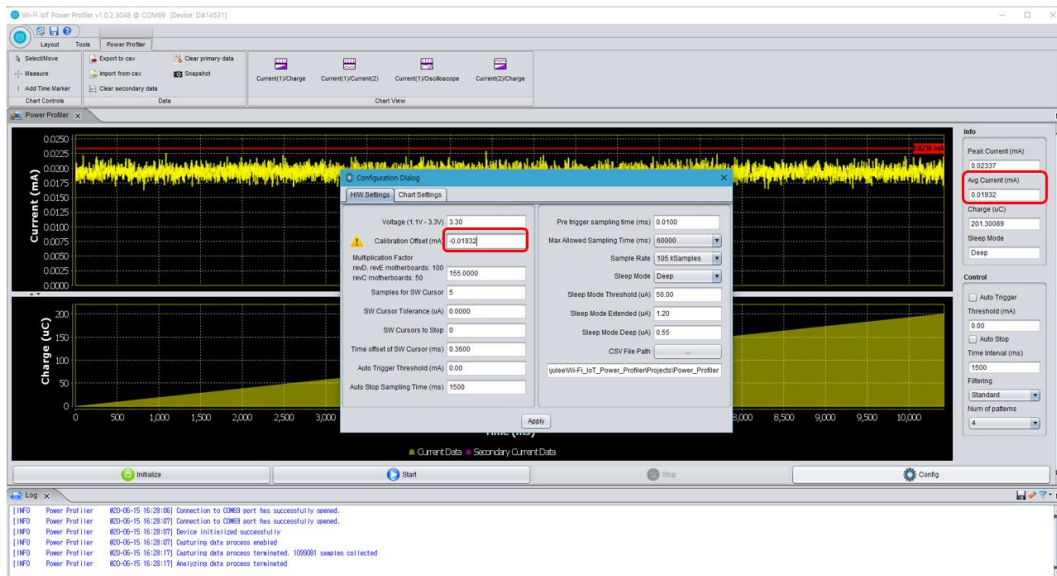

Figure 70. Setting calibration offset
- Run a free running capture for a few seconds and note down the number in the **Avg Current (mA)** field as shown in Figure 70. The last digits of the number keep changing slowly because of temperature drift. It is important to do the calibration steps periodically.
- Finally, put this average value with a negative sign in the **Calibration Offset (mA)** field. Ctrl+C and Ctrl+V are also workable as shown in Figure 70.